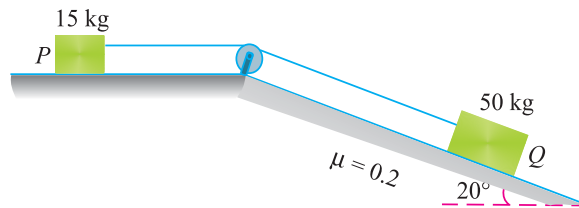

Fig. 25.22.
3. Two bodies P and Q are connected by a light inextensible string as shown in Fig. 25.22.